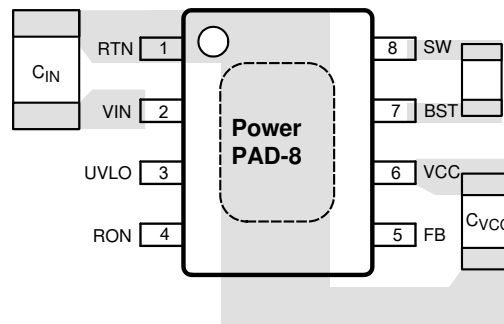

图 10-1. Placement of Bypass Capacitors
1. C_{IN} : The loop consisting of input capacitor (C_{IN}), V_{IN} pin, and RTN pin carries switching currents. Therefore, the input capacitor should be placed close to the IC, directly across V_{IN} and RTN pins and the connections to these two pins must be direct to minimize the loop area. In general it is not possible to accommodate all of input capacitance near the IC. A good practice is to use a 0.1- μ F or 0.47- μ F capacitor directly across the V_{IN} and RTN pins close to the IC, and the remaining bulk capacitor as close as possible (see 图 10-1).
2. C_{VCC} and C_{BST} : The V_{CC} and bootstrap (BST) bypass capacitors supply switching currents to the high and low side gate drivers. These two capacitors should also be placed as close to the IC as possible, and the connecting trace length and loop area must be minimized (see 图 10-1).